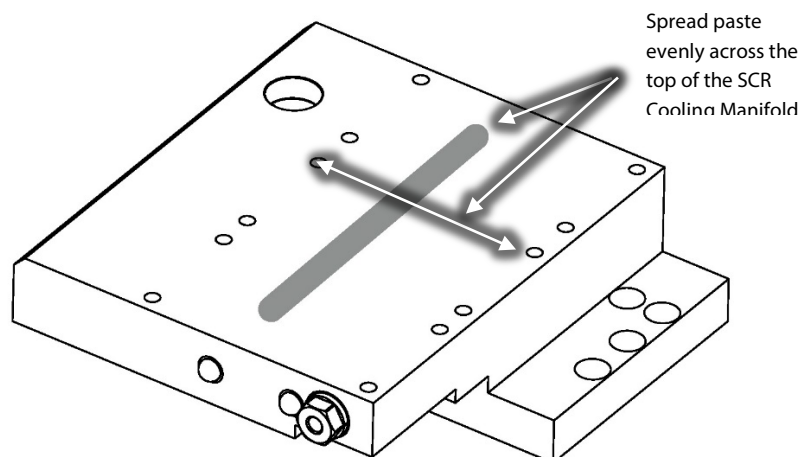

Figure 14 – SCR Cooling Manifold Thermal Paste Application
3. Using a Spatula spread the paste evenly into a complete masking film. Refer to Figure 14 (SCR Cooling Manifold Thermal Paste Application).